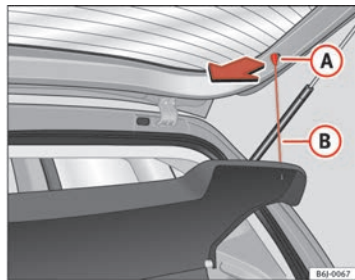

Fig. 85 Stowage tray
- Disengage the loops ⇒ fig. 85 **B** from the retaining pins **A**